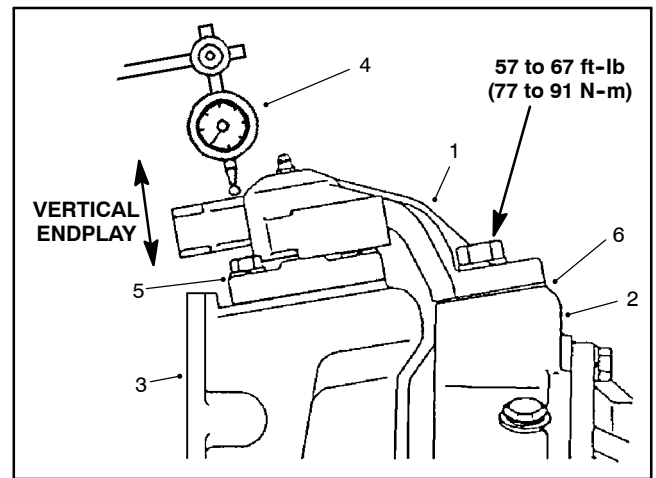

Figure 18
C. Use dial indicator to measure vertical endplay of axle case (Fig. 18).